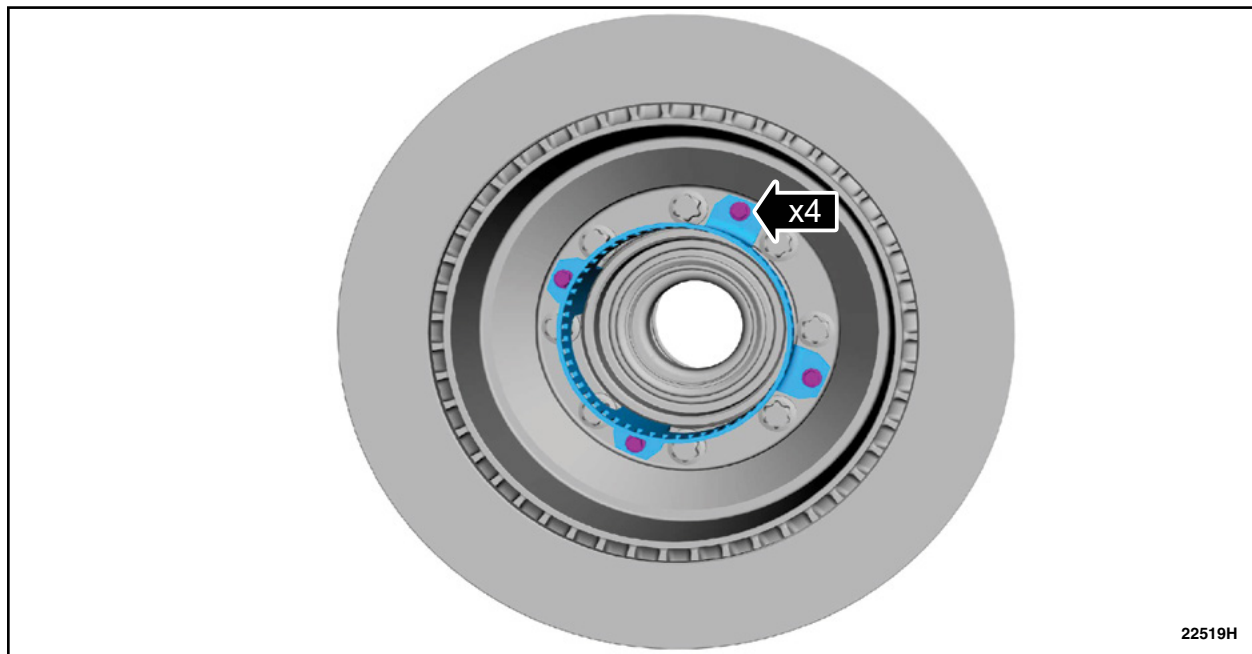

FIGURE 16
16. Position the *new* rear wheel speed sensor ring(s) and install the *new* rear wheel speed sensor bolts. See Figure 16.